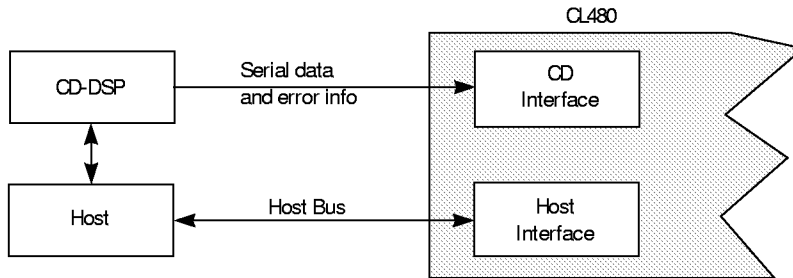

Figure 4-3 Sending Coded Data on CD Interface
- Serial mode (through the CD interface) as shown in Figure 4-3 and described further in Chapter 8.